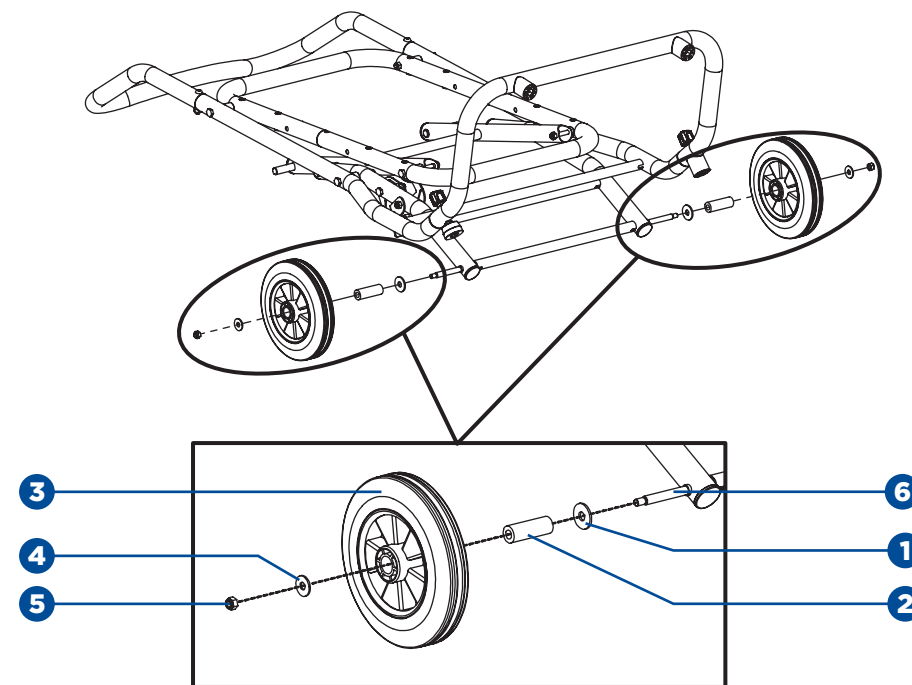

Fig. 3
**ATTACH ROLLER WHEELS (Fig. 3)**
- Slide a big flat washer M10 (1), roller sleeve (2), roller wheel (3), a big flat washer M8 (4) and a locking nut M8 (5) on the axle (6) through the hole in the centre of the roller wheel (2).
- Repeat with the second roller wheel (2).